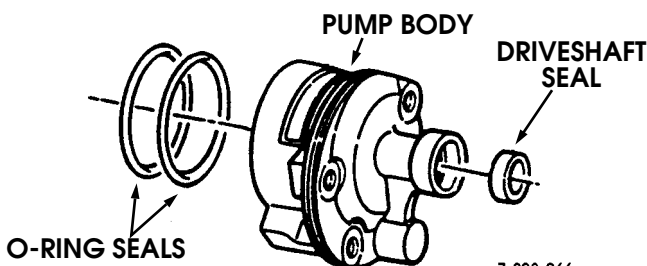

Figure 8-76: Seal Removal
29. Remove two O-ring seals from pump body. Discard O-ring seals (Figure 8-76).